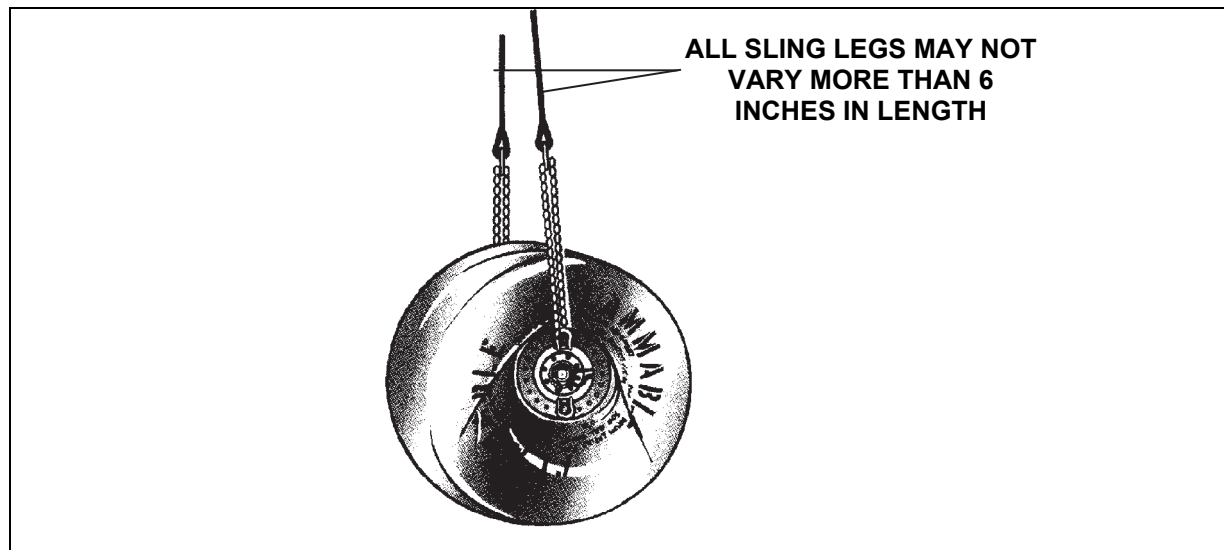

Figure 6-10. Load with Two Lift Points
- You may rig a load such as a fuel drum that has only two lift points. In this case, you may run two chains through each hookup point. This will allow the full capacity of the sling to be used. When using four sling legs and two lift points, all sling legs may not vary more than 6 inches in length. If the load is less than half the capacity of the sling set, you can use just two sling legs, one leg to each hookup point as shown in figure 6-10. When using two sling legs, each sling leg of the pair may not vary more than 6 inches in length.